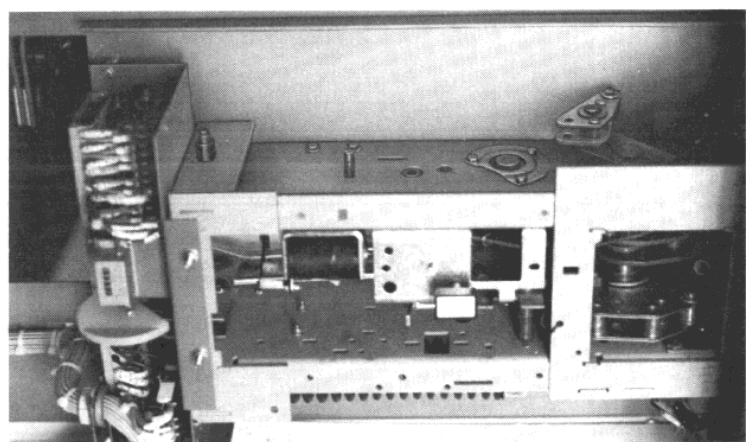

Figure 12
5. Detach and remove the springs. (Figure 12) shows top spring location after removal.